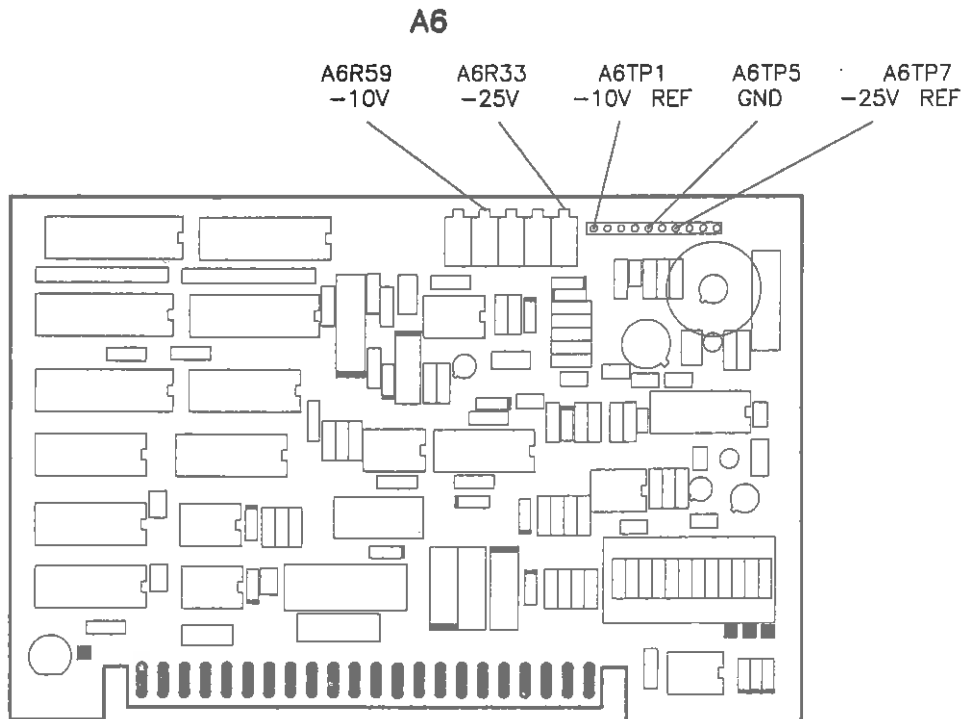

Figure 5-2. -25V and -10V Reference Points and Adjustments
1. Connect the DVM to A6TP7 (see figure 5-2). Connect ground to A6TP5.